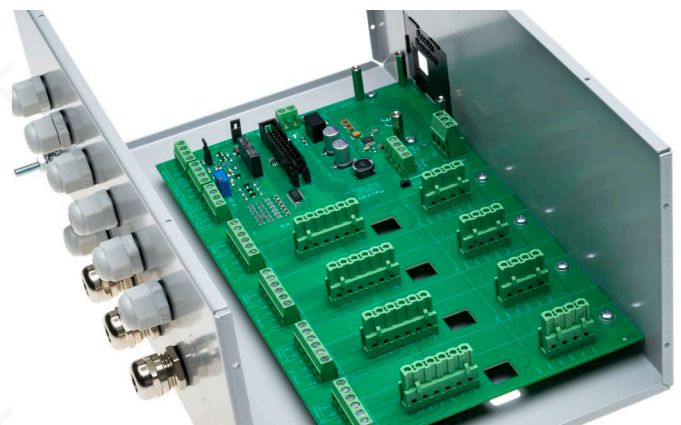

Fig. 9: Housing base with mounted motherboard
- Mount the main board with cylinder head screws **14** on the base. See Fig. 9.